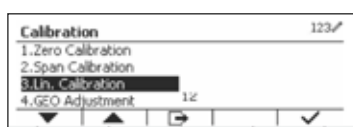

Figure 12
- Exit Span Calibration by pressing the softkey corresponding to the ✓ icon. (See Figure 12)